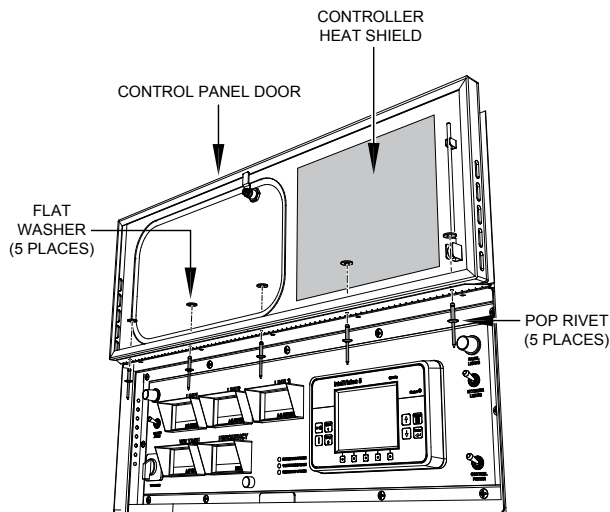

Figure 7. New Door Installation
1. Install the new control panel door onto the existing piano hinge as shown in Figure 7 using the supplied pop rivets (5) and washers (5).